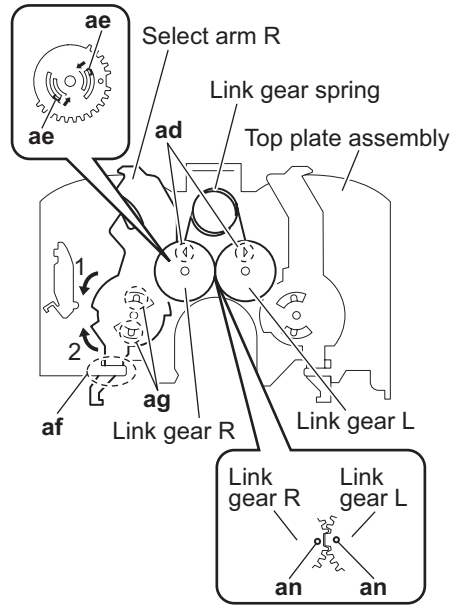

Fig.17
(See Figs.17 and 18)**
- (1) From the top side of the top plate assembly, remove the link gear spring from the sections **ad** of the link gear L and link gear R. (See Fig.17.)
- (2) Remove the link gear R in an upward direction while releasing the claws **ae** of the link gear R in the direction of the arrow. (See Fig.17.)
- (3) Move the select arm R in the direction of the arrow 1 to remove the sections **af** of the top plate assembly. (See Fig.17.)
- (4) Move the select arm R in the direction of the arrow 2 and remove the select arm R from the sections **ag**. (See Fig.17.)
- When reattaching the link gear R, attach it after aligning the hole **an** of the link gear R to the hole **an** of the link gear L. (See Fig.17.)